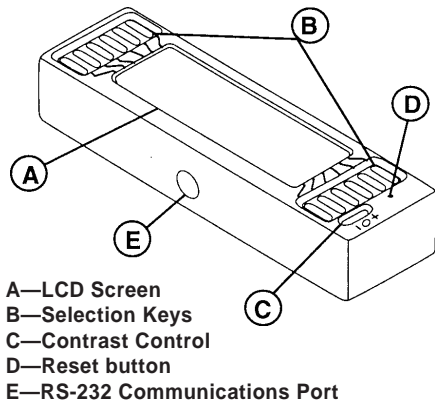

Figure 4—Graphical display control module
The *graphical display control module* (AS42CM and AS42CM-T), shown in figure 4, displays system status and program information using an LCD screen (A). System configuration and programming are performed using the module selection keys (B). Screen contrast can be adjusted to the desired value using the module's contrast control (C). The control module can be reset manually by depressing the reset button (D) with a paper clip or similar tool. This will restart operation without affecting system configuration. In addition to the network connection, a temporary link is available using the RS-232 (serial) communications port (E).